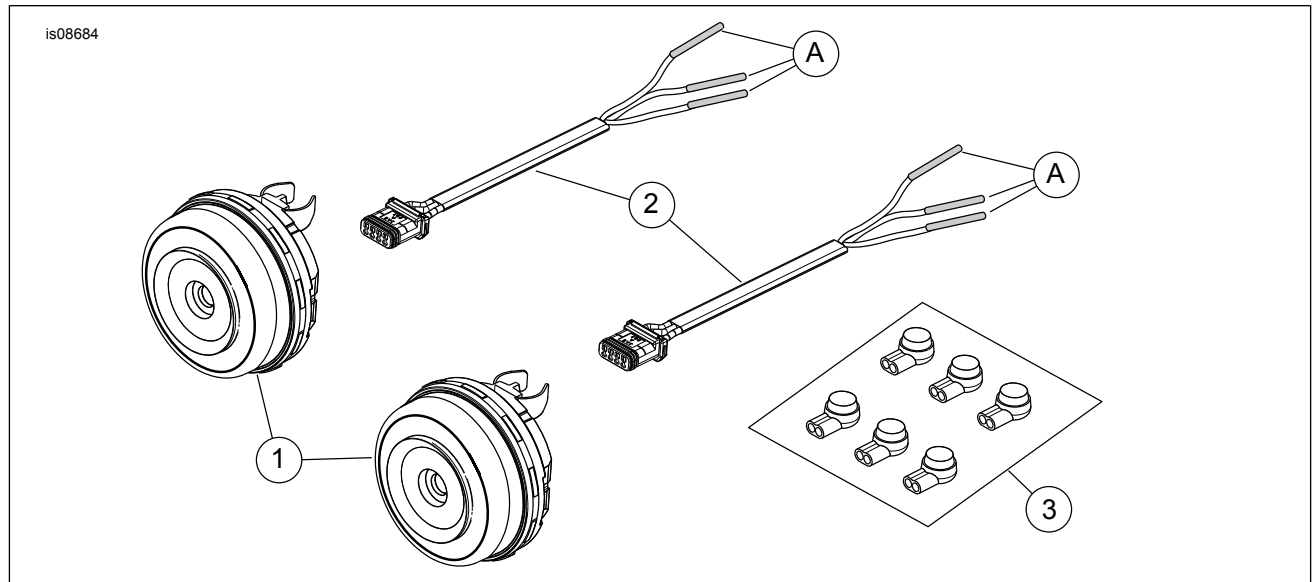

Figure 5. Service Parts: Run/Stop/Turn Lamp
See Figure 5 and Table 1.
6. See Figure 5. Match harness wire (2) with the same wire color in the lamp housing. Cut the shrink insulator (A) off matching wire color.
11. See Figure 5. Connect lamps (1) to harnesses (2).